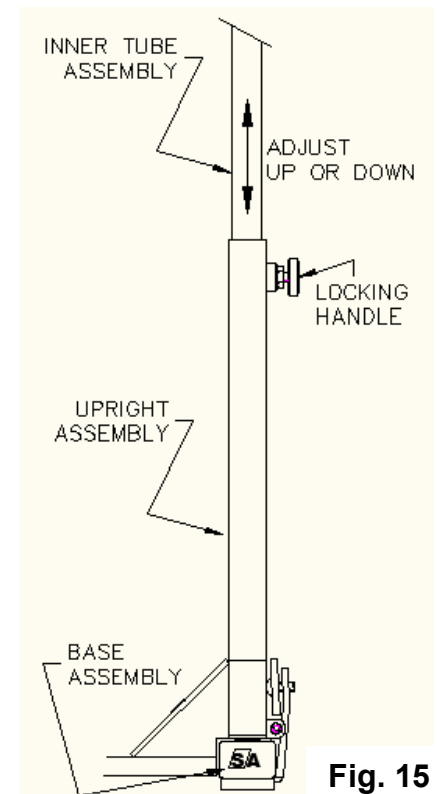

Fig. 15
- Loosen the Spin-Snap Lock Device on each side of the Uprights, by turning the Spin Lock portion, round disc, counterclockwise. (See **Fig. 15**)
- While supporting the weight of the Rail, Ring Frame, pull outward on the Snap Lock Portion of the Spin-Snap Lock Devices on the Uprights. (See **Fig. 15**)